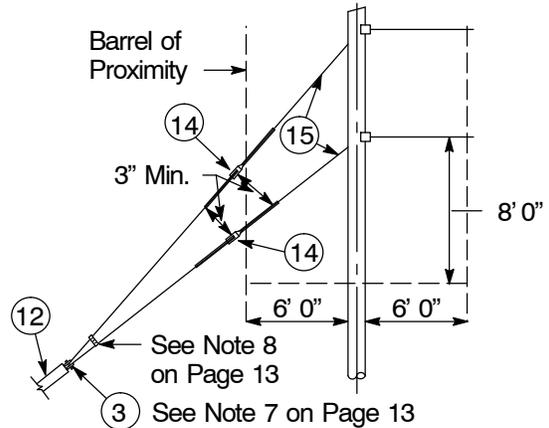

Figure 19
7. Two or more guys attached to the same anchor rod shall be clamped together as shown in Figure 19 on Page 10 unless the angle between them is too large to permit such construction. On joint anchor installations, the last party on the job shall clamp the guys together and attach the guard in accordance with Document 06542.
8. Install a 3-bolt clamp (Document 06537) where required, to maintain a 3-inch separation between the guy insulator and the guy, as illustrated in Figure 19 on Page 10.